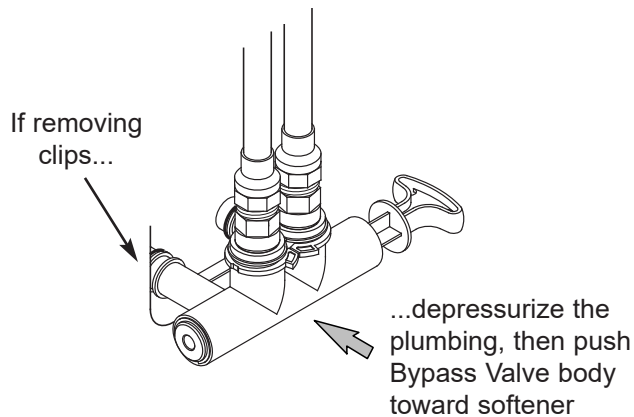

FIG. 15
- Check for leaks around clips at softener's inlet and outlet. If a leak occurs at a clip, depressurize the plumbing (turn off the water supply and open faucets) before removing clip. When removing clips at the softener's inlet or outlet, push the single bypass valve body toward the softener (See Figure 15). Improper removal may damage clips. Do not reinstall damaged clips.